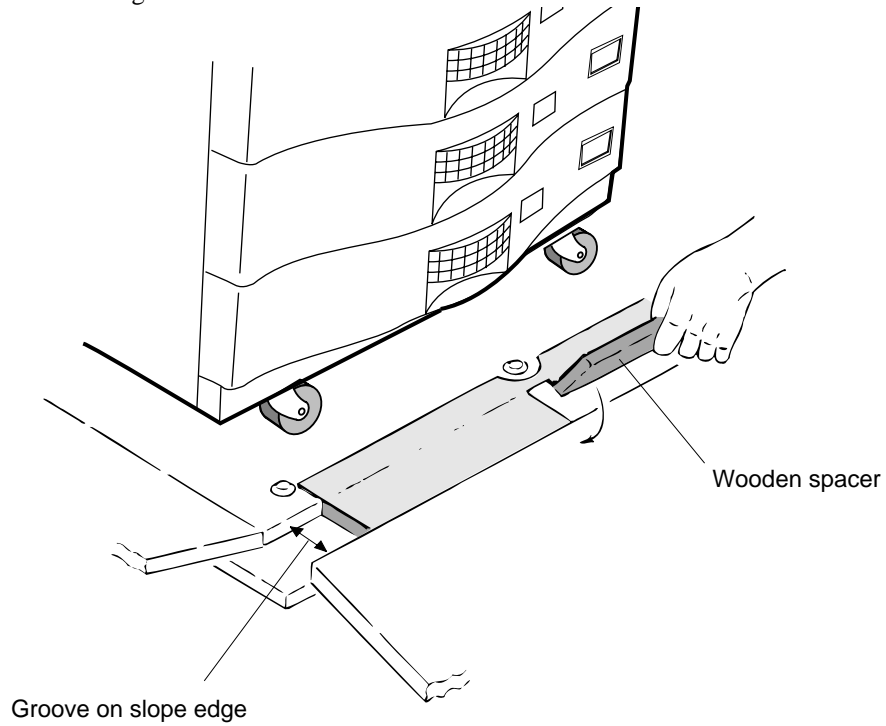

Figure A-14 Securing Wood Spacers
3. Flip the two small wood spacers into the groove on the slope edge of pallet ramp, as shown in Figure A-14.